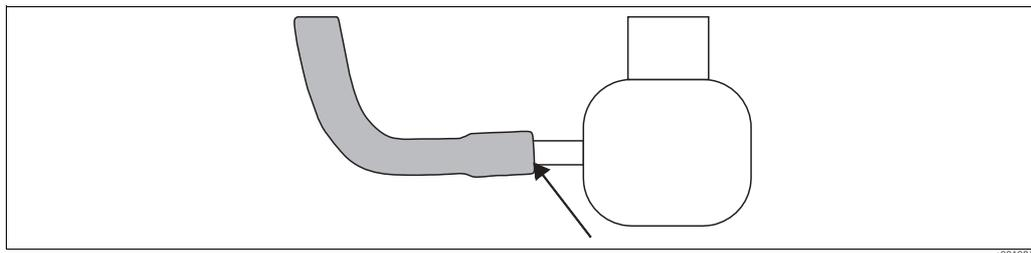

Fig. 18: Leak detection
2. With a small, soft brush, paint the solution onto the connection points between the gas tubing and the glassware, reactor, and IR analyzer (Fig. 18).